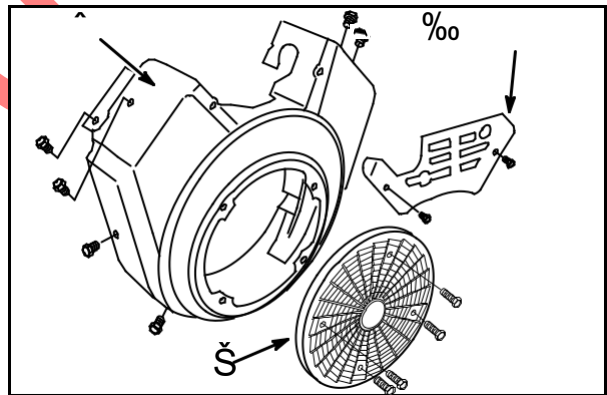

Fig. 36
Install blower housing (8), **Fig. 36**.